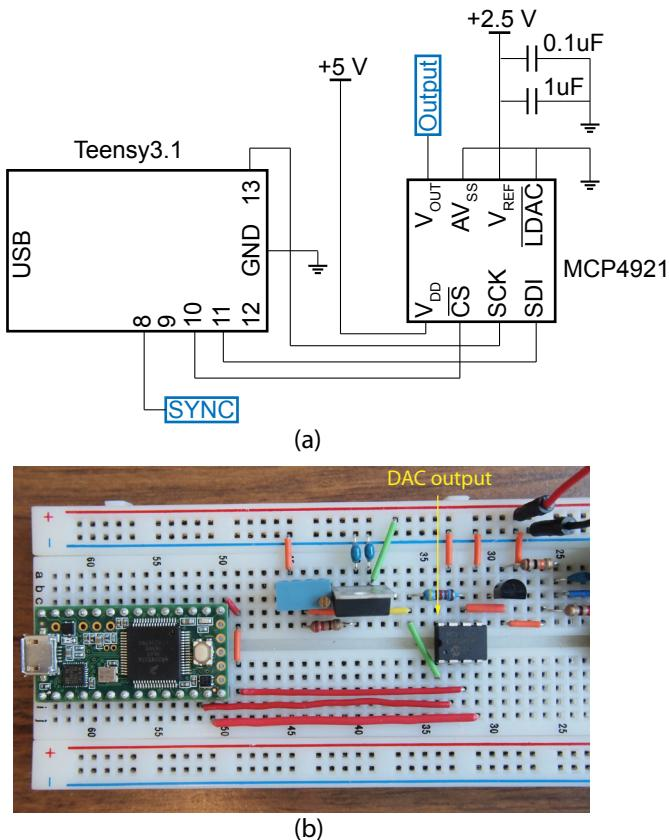

Figure 14: Schematic of the connection between the Teensy 3.2 and the MCP4921.
1. Using Fig. 14-a as a reference, connect the Teensy to the MCP4921 DAC. Connect the MCP4921's VDD pin to the output of the LM317 regulator (5 V). Connect the MCP4921's VREF pin to the LT1009 reference's output (2.5 V). Connect both AVSS and LDAC of the MCP4921 to ground. A 0.1 μ F and a 1 μ F capacitor could be used at VREF to minimize noise at the reference. It is very important to keep your circuit (ICs, resistors, capacitors, wires, etc) organized. Use as short of a wire as possible between two connection points. Refer to Fig. 14-b for an example layout.